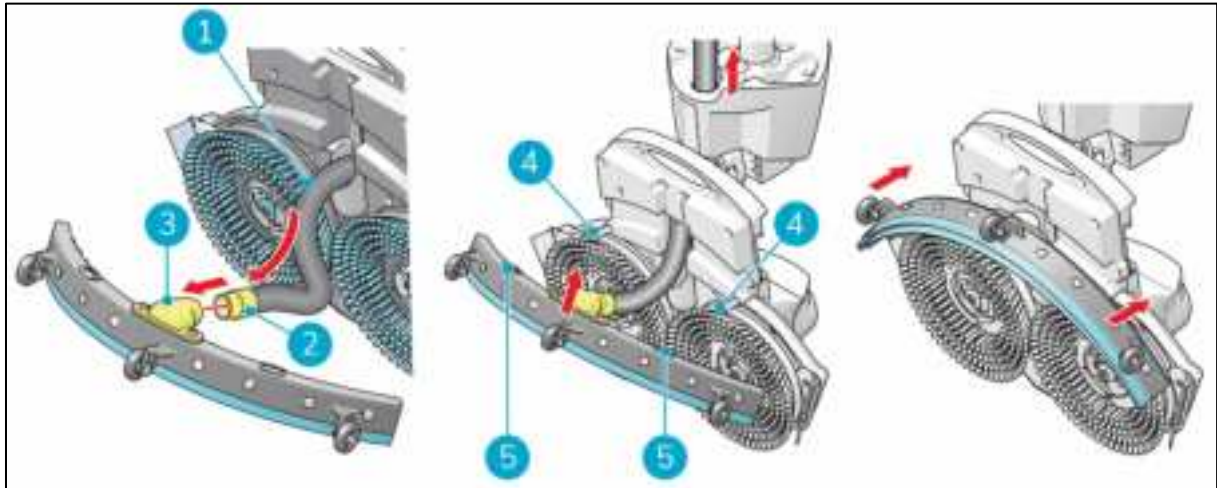

Figure 9
1. Take the vacuum hose (Figure 9, pos 1).
2. Insert the hose connector (, pos 2) in the squeegee (Figure 9, pos 3).
3. Twist the hose connector 1/4 turn for a firm fit (Figure 9, pos 2).
6. Align the pins on the scrub deck (Figure 9, pos 4) with the holes on the squeegee (Figure 9, pos 5).